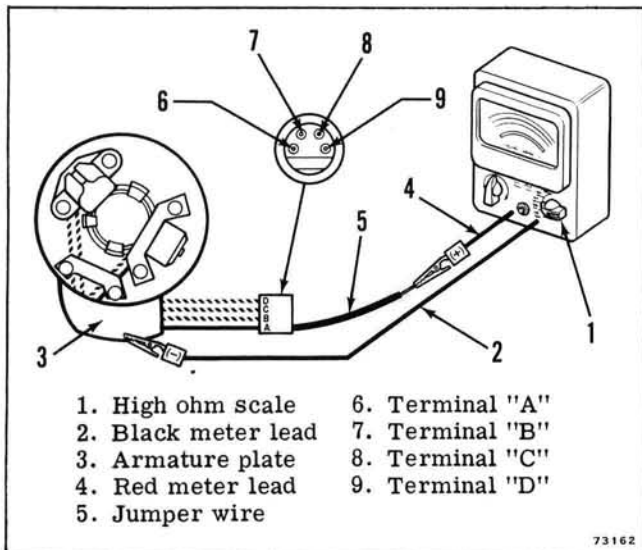

Figure 4-20. Charge Coil Shorts to Ground
d. To test for shorts to ground, calibrate the ohm-meter to high ohm scale. Connect the black meter lead (-) to the armature plate (ground). Attach the red meter lead (+) to the "A" terminal jumper wire in the connector. See Figure 4-20. Any needle movement indicates the charge coil or leads are shorted to ground. A shorted charge coil must be